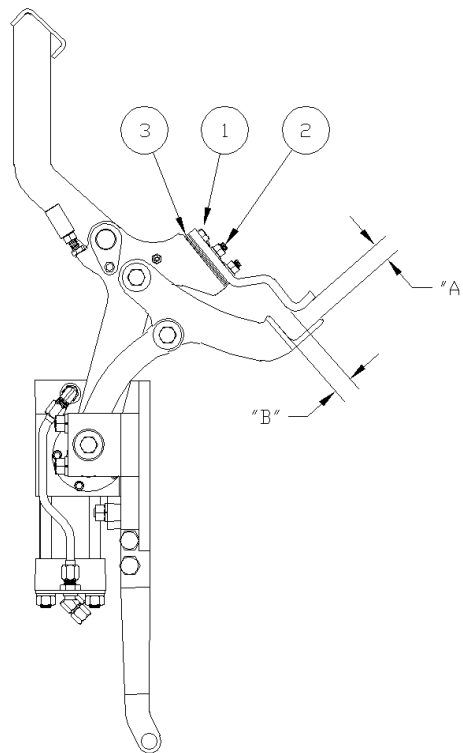

figure O-2
Check the distances (*figure O-2*) between the finger bar and the clamp bar when the lifter faceplate is in the **FULL DUMP** position. Maintain these dimensions at approximately 7/8" for the proper "locking" of the cart to the lifter. To adjust these settings, remove the nuts (1) and bolts (2) that hold finger bar. Add or remove finger bar shims (3) to obtain the correct dimension of approximately 7/8" at (**B**). Use the slots in the finger bar to obtain the correct dimension of approximately 7/8" at (**A**). Replace the bolts (2) and tighten the nuts (1). The object of these adjustments is to properly hold container without excessive force.
CAUTION: *The distance in figure O-2 is an arbitrary figure based on information furnished by cart manufacturers. It is the responsibility of the owner / operator of this equipment to adjust these dimensions to be compatible with his specific application.*